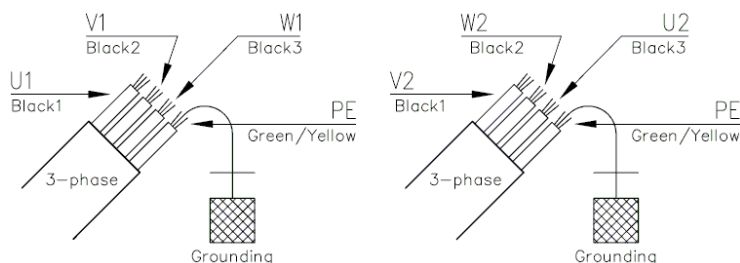

Fig.5
- a) For 3-phase, grounding shall be done using Green and Yellow stripe cord (Label PE) among the four lines, as shown in Fig. 5. Never connect the Green and Yellow stripe cord to the power source. The grinding shall be surely conducted conforming to the Technology Standard of Electric Facilities.